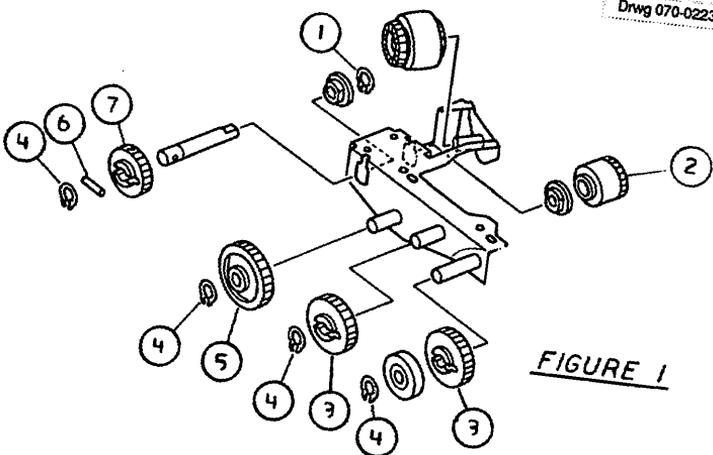

FIGURE 1
Manual Feed Assembly (Figure 1).....	6.8
**LASERWRITER - MANUAL FEED ASSEMBLY, P/N 699-0322 (Figure 1)**